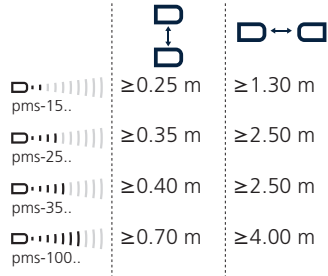

Fig. 2: Assembly distances to avoid a mutual influence of the sensors
- If several pms sensors are operated in a small space, the minimum mounting for parallel or opposite arrangement of the sensors shown in figure 2 must be maintained.